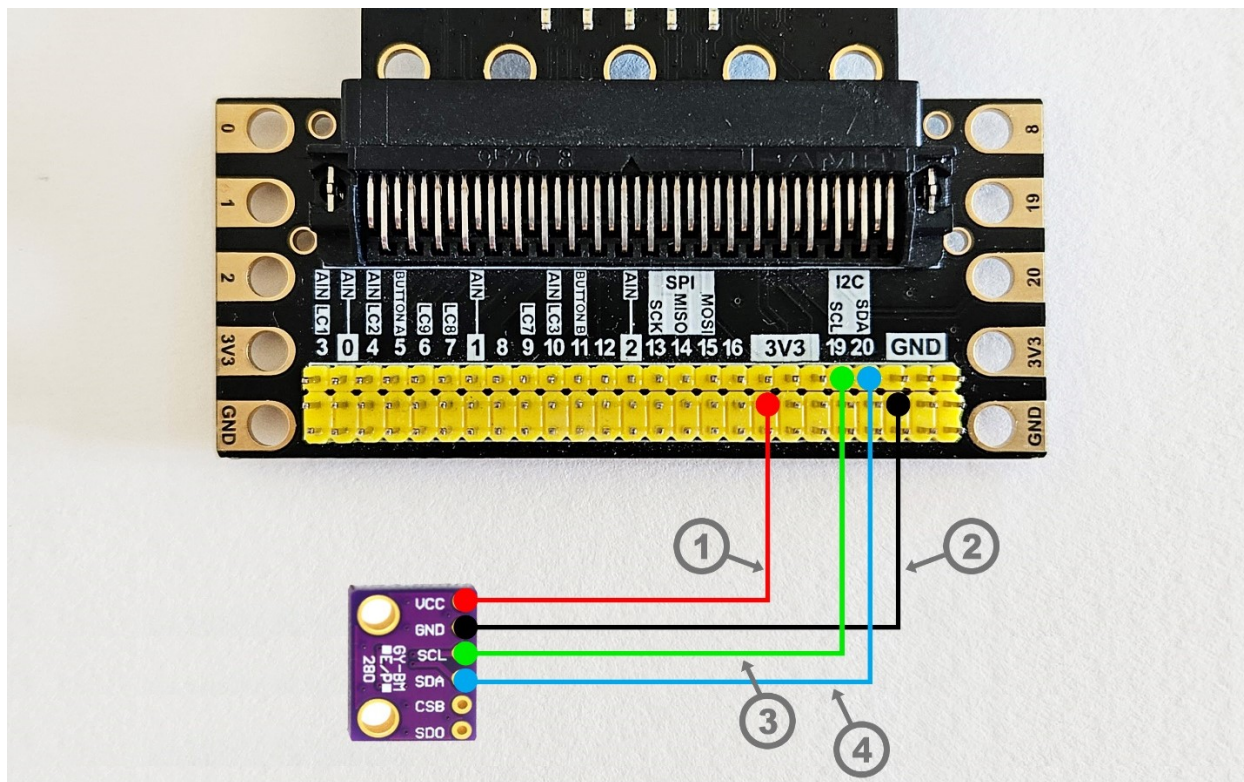

Figure 24: Adding the BMP280 barometric pressure sensor
Figure 24 shows how the BMP280 barometric pressure sensor is connected to the edge-connector breakout board. 4 F-F jumpers are required to make the following connections: VCC to 3V3 (1), GND to GND (2), SCL to pin 19 (or SCL pin) (3) and SDA to pin 20 (or SDA pin) (4). The sensor is now ready to be programmed.
After connecting the sensor to the micro:bit via the edge connector (see *Figure 24*) and importing the “envirobit” extension, create a new project in Makecode. In the **forever** loop, add the **show number** command from the **Basic** menu, and insert the **“Get pressure decimal”** command into the value field. Then add a 1-minute **pause** (i.e., 60000 milliseconds), and download the script to the micro:bit.